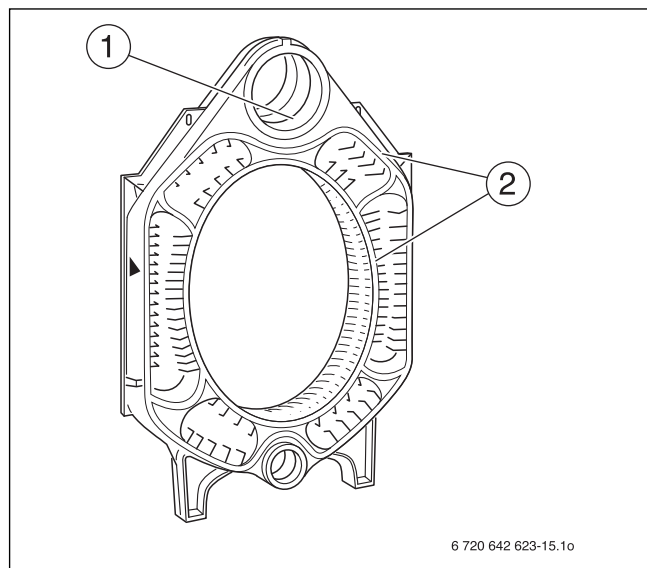

Fig. 17 Preparing the intermediate section
- ▶ Evenly coat the hub sealing faces with sealant (→ Fig. 17, [1]).
- ▶ Coat the packing springs with primer (→ Fig. 17, [2]).